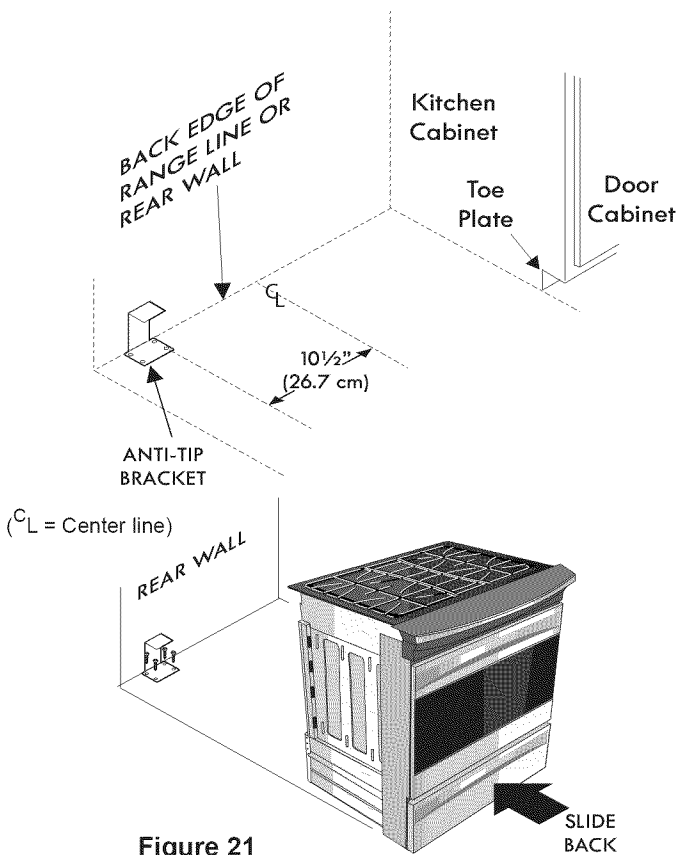

Figure 21
1. Draw a center line (CL) on the floor where the range should be installed. Also draw a line on the floor at the range back position if there is no wall.
2. Unfold paper template and place it flat on the floor with the right rear corner positioned exactly on the intersection of the center and back lines you just drew before. (Use the diagram below to locate brackets if template is not available (Figure 21)).
6. Slide range into place making sure structure of the range is trapped by the anti-tip bracket (Figure 21). Lower the range by adjusting the 4 leveling legs until the underside of the cooktop is sitting level on the countertop. Refer to "Leveling the Range" section.